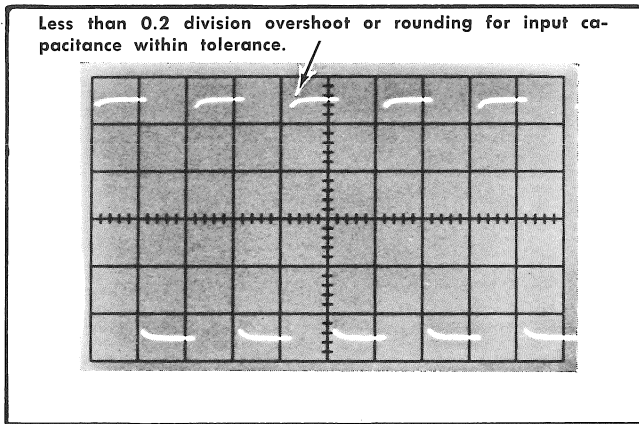

Fig. 6-9. Typical CRT display when checking input capacitance.
- CHECK—CRT display for 0.2 division, or less, overshoot or rounding (47 pF, ± 4 pF; see Fig. 6-9).